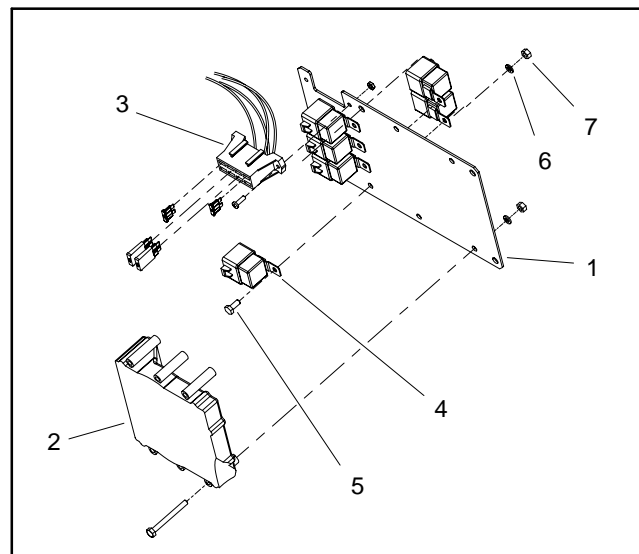

Figure 10
The Sonic Boom System uses six (6) identical relays to control the boom actuators and ultimately the boom height. Three (3) of the relays control the right actuator and the other three (3) relays control the left actuator. The electronic control unit (ECU) controls the operation of the relays. The relays are located on a mounting plate under the vehicle dash panel (Fig. 10) and can be identified by a label on the wire harness connector.